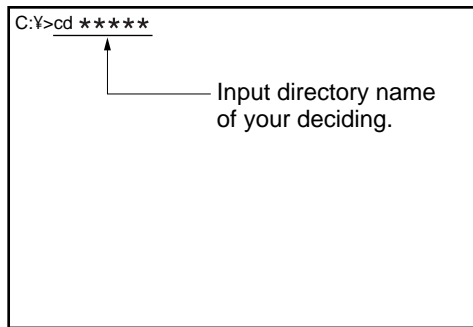

Fig.E3-1
- 1) Input "cd " as shown in Fig.E3-1, and then press "ENTER" key.